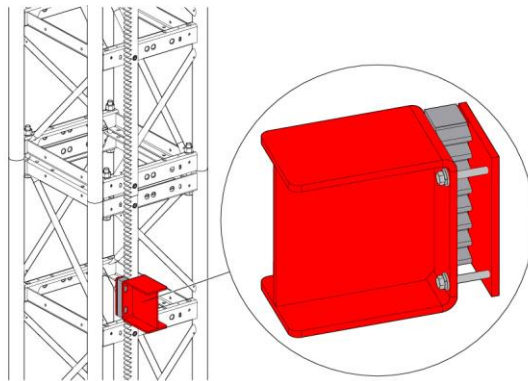

Figure 4.3A
- **NEVER STAND OR WORK BENEATH THE CAR**, without using an official **FRACO** safety locking device. Access under the hoist is only permitted for installation & maintenance purposes and only at the condition that the hoist is unloaded and is completely locked from moving, sitting **MAXIMUM 2" (51 mm)** over the safety locking device installed on the mast rack. Reference **FIGURE 4.3A – FRACO SAFETY LOCKING DEVICE**.